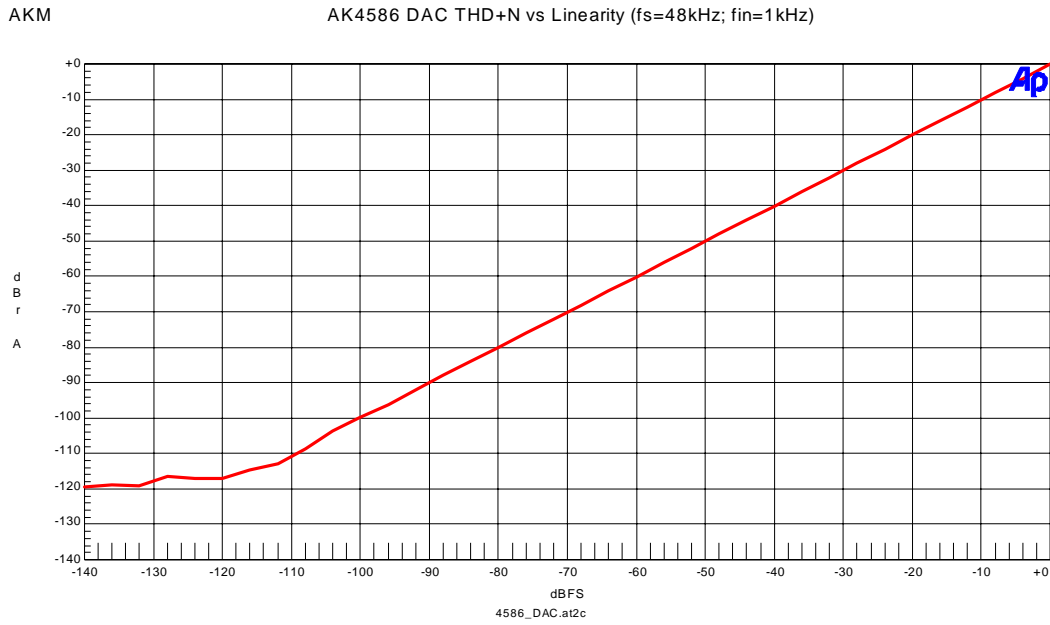

Figure 3-7. Linearity (fin=1kHz)
- Figure 3-7. Linearity (fin=1kHz)